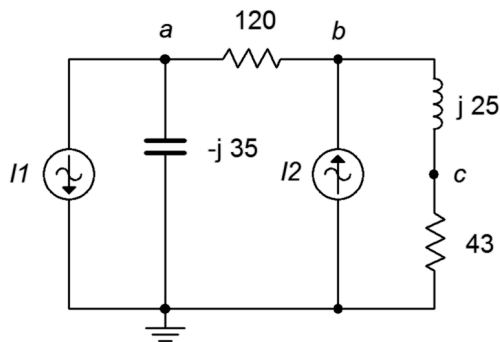

Figure 6.15
29. Given the circuit in Figure 6.15, use nodal analysis to determine v_c . $I_1 = 3 \angle 0^\circ$, $I_2 = 900E-3 \angle 0^\circ$
30. Use nodal analysis to find the current through the 120Ω resistor in the circuit of Figure 6.15.